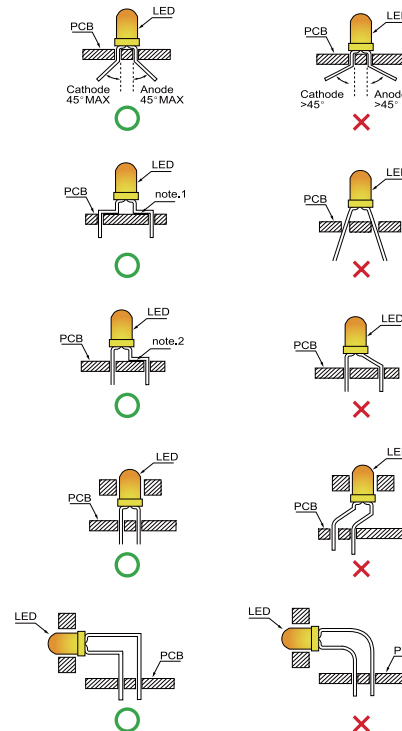

Fig. 1
1. The lead pitch of the LED must match the pitch of the mounting holes on the PCB during component placement. Lead-forming may be required to insure the lead pitch matches the hole pitch. Refer to (Fig.1) for proper lead forming procedures.